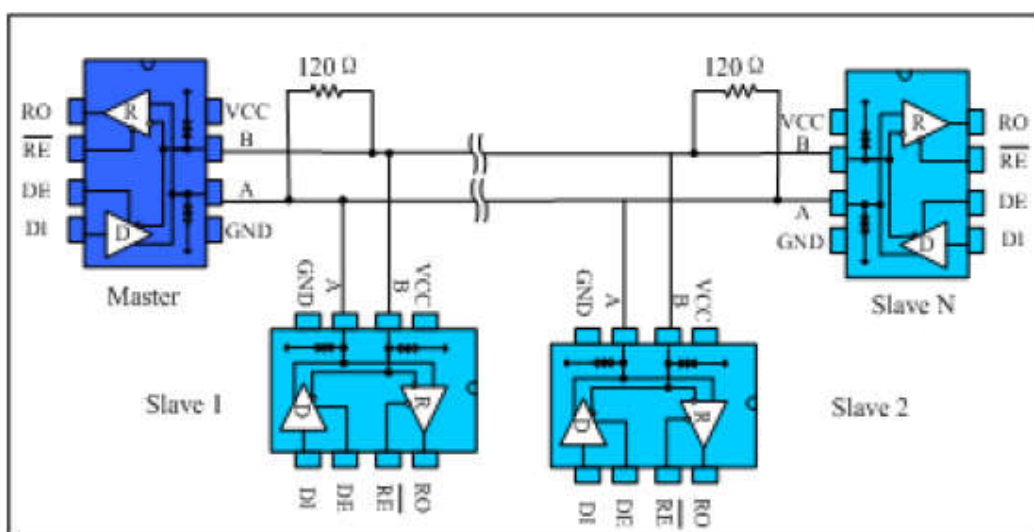

Fig. 9 Bus-type RS485 half-duplex communication network
**4.1 Bus networking:** The SP3485E RS485 transceiver is designed for bidirectional data communication on multi-point bus transmission lines. Figure 9 shows a typical network application circuit. These devices can also be used as linear repeaters with cables longer than 4000 feet. In order to reduce reflections, terminal matching should be done at both ends of the transmission line with their characteristic impedance, and the length of the branch wires other than the main line should be as short as possible.